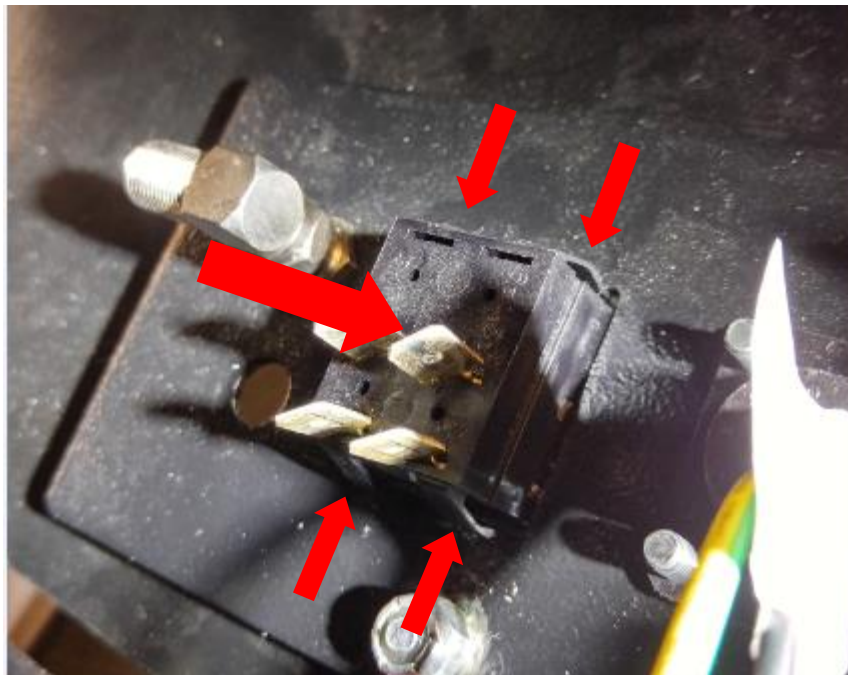

Fig. 7
8. Remove the power switch from the frame plate by pushing in on the four tabs on the outside of the switch body while pushing the switch out from the inside of the unit (Fig. 7)